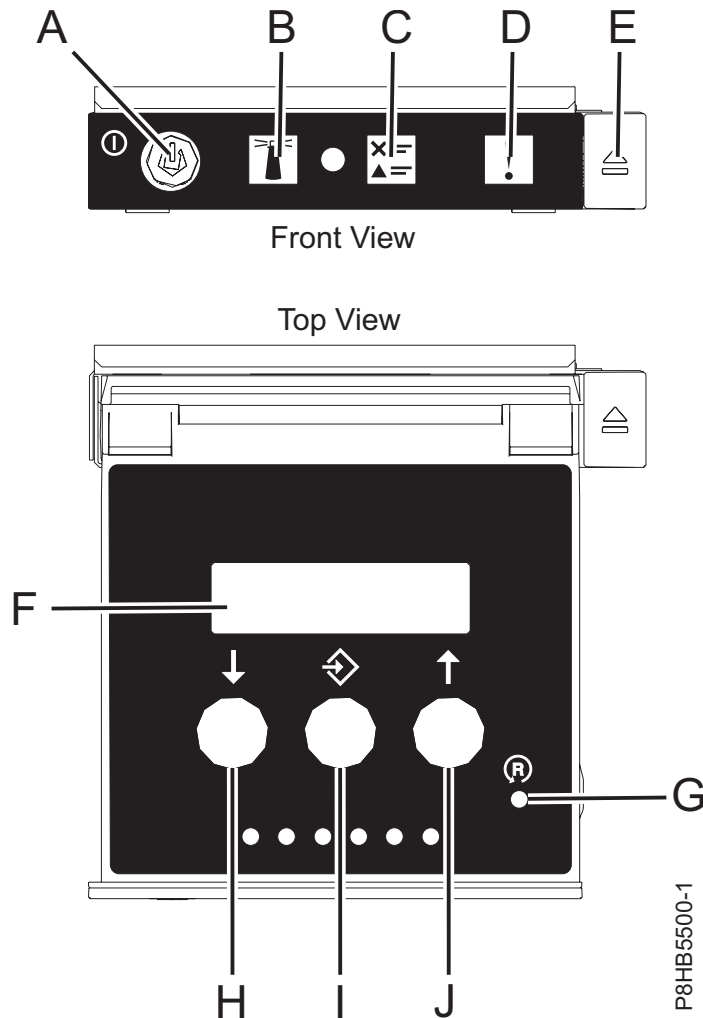

Figure 107. Pinhole switch that is on the control panel
If you are still not able to access the service network, reset the service processor by pressing the pinhole switch (G) on the control panel. See Figure 107 on page 107.